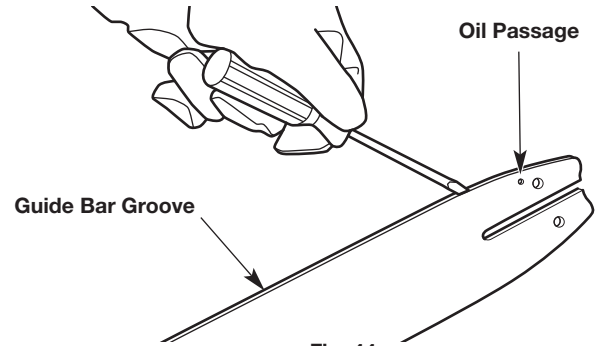
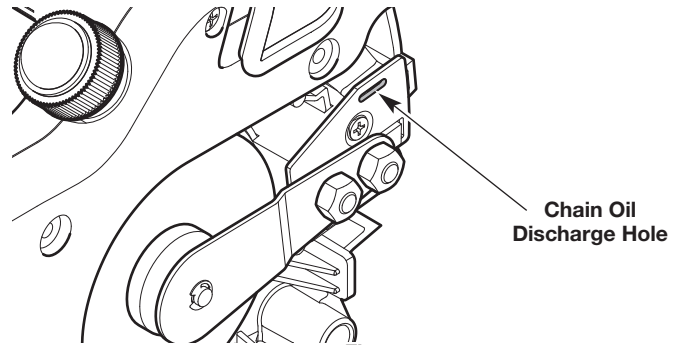

Fig. 44
Fig. 45
2. Clean the guide bar groove and oil passages whenever the saw chain is removed, when the unit has been used heavily or when the saw chain appears dirty. Use a screwdriver, putty knife, wire brush or similar instrument to remove debris from the guide bar groove (Fig. 44). Use a small, soft wire to remove any debris from the chain oil discharge hole (Fig. 45).